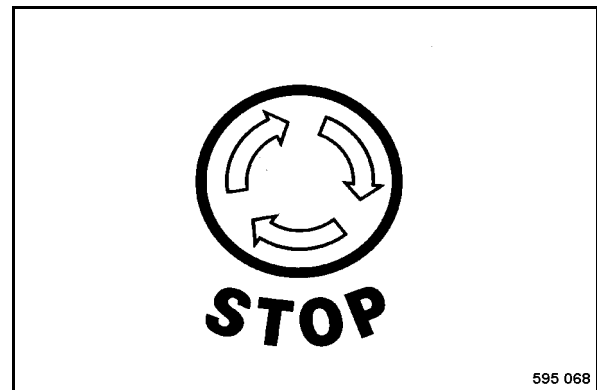

Fig. 69
- Press the button of the emergency stop switch (Fig. 69) completely down, it automatically locks in fully pressed position.